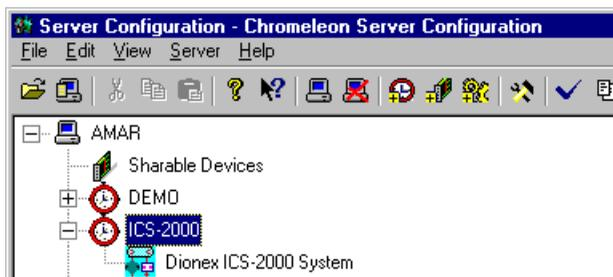

Figure B-14. Example: ICS-2000 Timebase
2. Select the timebase that was created for the ICS-2000 (see Figure B-14); then, click the **Add device** icon  on the toolbar (or select **Edit>Add Device**).